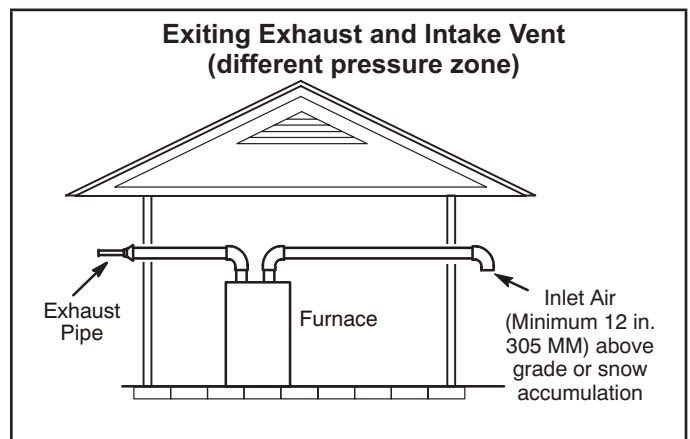
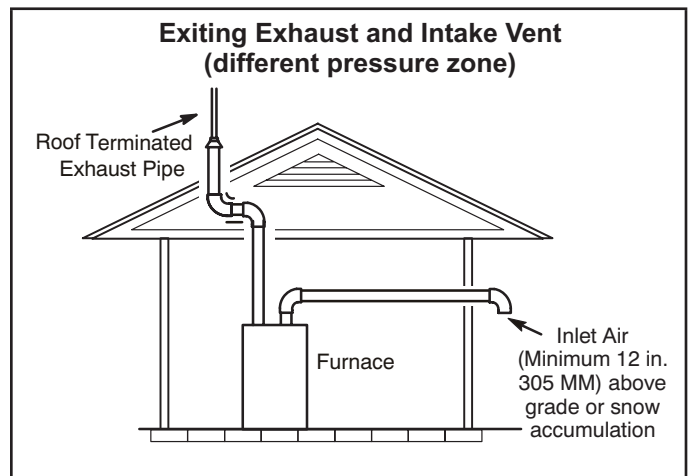

FIGURE 33
FIGURE 34
Intake and exhaust pipes may be routed either horizontally through an outside wall or vertically through the roof. In attic or closet installations, vertical termination through the roof is preferred. FIGURE 33 through FIGURE 41 show typical terminations.
- 1 - Intake and exhaust terminations are not required to be in the same pressure zone. You may exit the intake on one side of the structure and the exhaust on another side (FIGURE 33). You may exit the exhaust out the roof and the intake out the side of the structure (FIGURE 34).